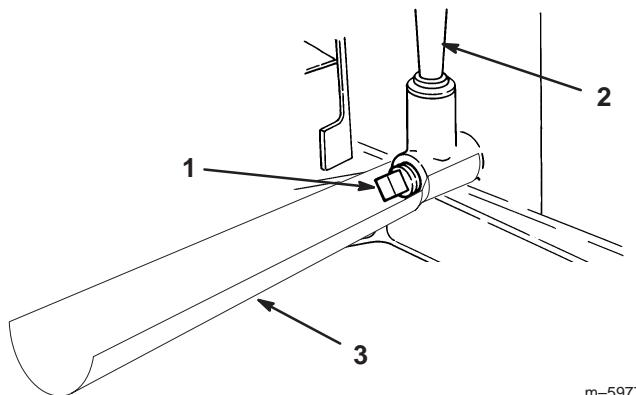

Figure 15
4. Slide the draining funnel underneath the oil dipstick/fill tube (Fig. 15).
5. Place a pan below the oil dipstick/fill tube and remove the drain plug (Fig. 15).